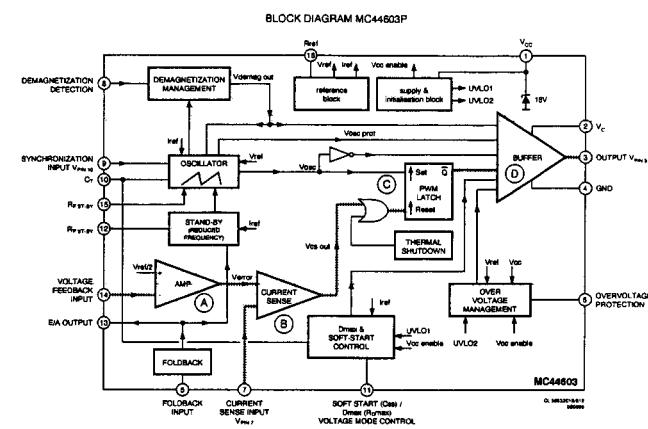
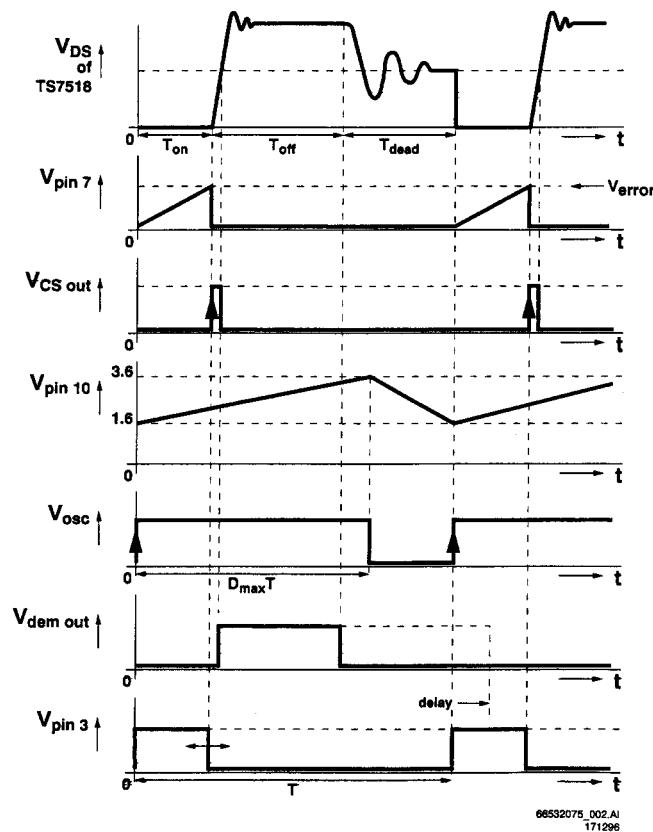

Fig. 9.2
Fig. 9.3
9.3.5 IC7520 control (see Fig. 9.2 and Fig. 9.3)
The error amplifier (block A in Fig 9.2) compares the feedback voltage V_{pin14} with an internal reference voltage of 2V5. The output voltage $V_{error-out}$ of this error amplifier is fed to another comparator (block B in Fig 9.2). This comparator compares the $V_{error-out}$ and the current sense voltage V_{pin7} . As soon as the current sense voltage V_{pin7} becomes higher than the output-voltage of the error amplifier $V_{error-out}$, the comparator B gives a spike (the output of comparator B is the so called current sensing output-voltage $V_{cs\ out}$).
Flip flop (block C in Fig 9.2) drives the output pin 3 (V_{pin3}) via a buffer amplifier (block D). The flip flop is set by positive edge of the output of the oscillator (V_{osc}) and reset by the spike $V_{cs\ out}$. As a result the pulse V_{pin3} becomes "high" (T-on starts) by the positive edge of V_{osc} from the internal oscillator and "low" (T-on stops) by the spike of $V_{cs\ out}$ (the T-on start will be delayed in case the transformer is not yet demagnetised; see the slow-start procedure).
9.3.7 Stable load and increasing / decreasing load (see Fig. 9.3):